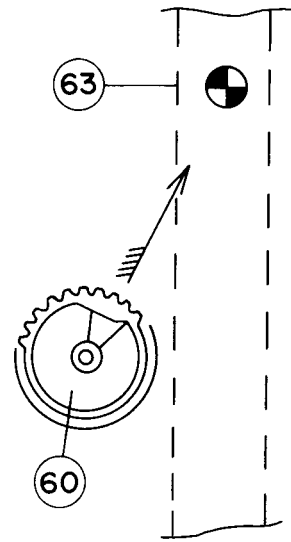

Figure 15
- (1) When Cam "60" is replaced, make sure that the depressed part on the cam should be mounted facing with the tonearm as shown in Figure 15.